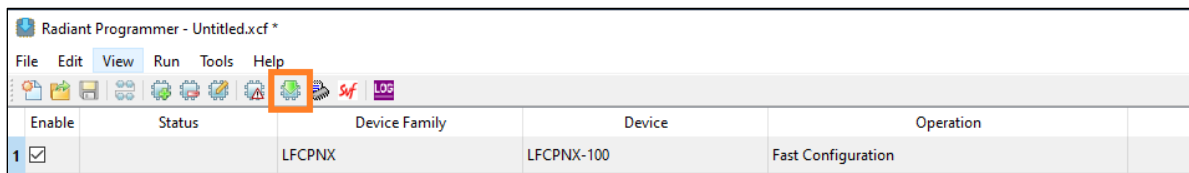

Figure 8.4. Lattice Radiant Programmer Program Device Icon
14. Click on the Program icon to program the device and wait for a success message (Figure 8.4).